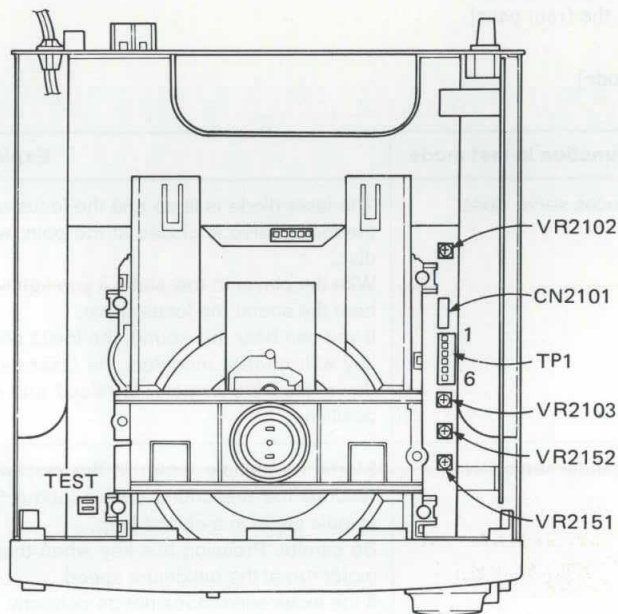

Fig. 8-7 Adjustment Locations
2. Short the test mode jumper wires. (See Fig. 8-7.)